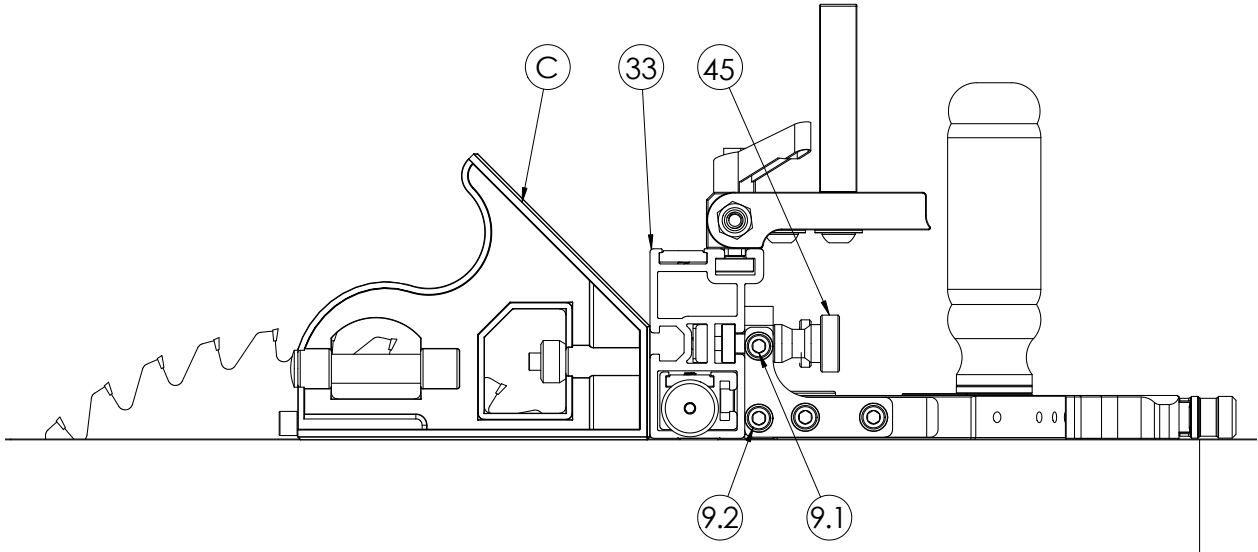

Figure 14
- a. Slide your Fence Extrusion (Part #33) back onto the Mite-R-Excel II™ (See **Figure 14**) and tighten it in position using the Fence Knobs (Part # 45)
- c. Using a combination or machine square, position it up against the front face of the Fence Extrusion. To square the fence to the table, make sure the square is flush with the table and flush against the extrusion and the gauge is sitting flat on your table. Rotate the fence until you see no light between the square and the fence, re-tighten screws 9.1 & 9.2 on the left and right side of the gauge. (See **Figure 14**)